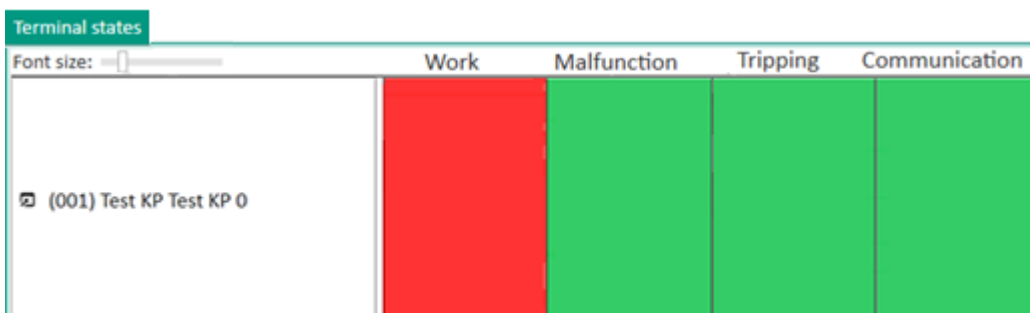

Figure 256 – Device is not ready for operation
e) device is in non-operating state, not ready for operation (figure 256).